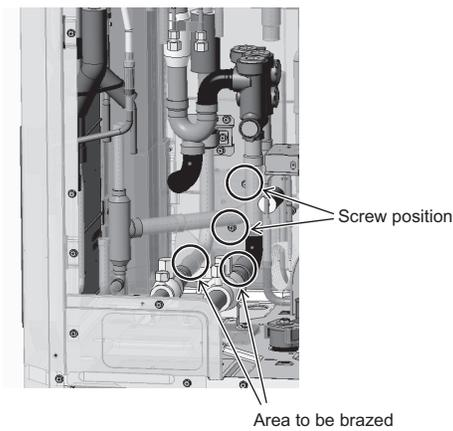

Figure 18
(18) Re-place the check valve block assembly that was replaced in step (15). (2 areas to be brazed. 2 screws. See Figure 18.)